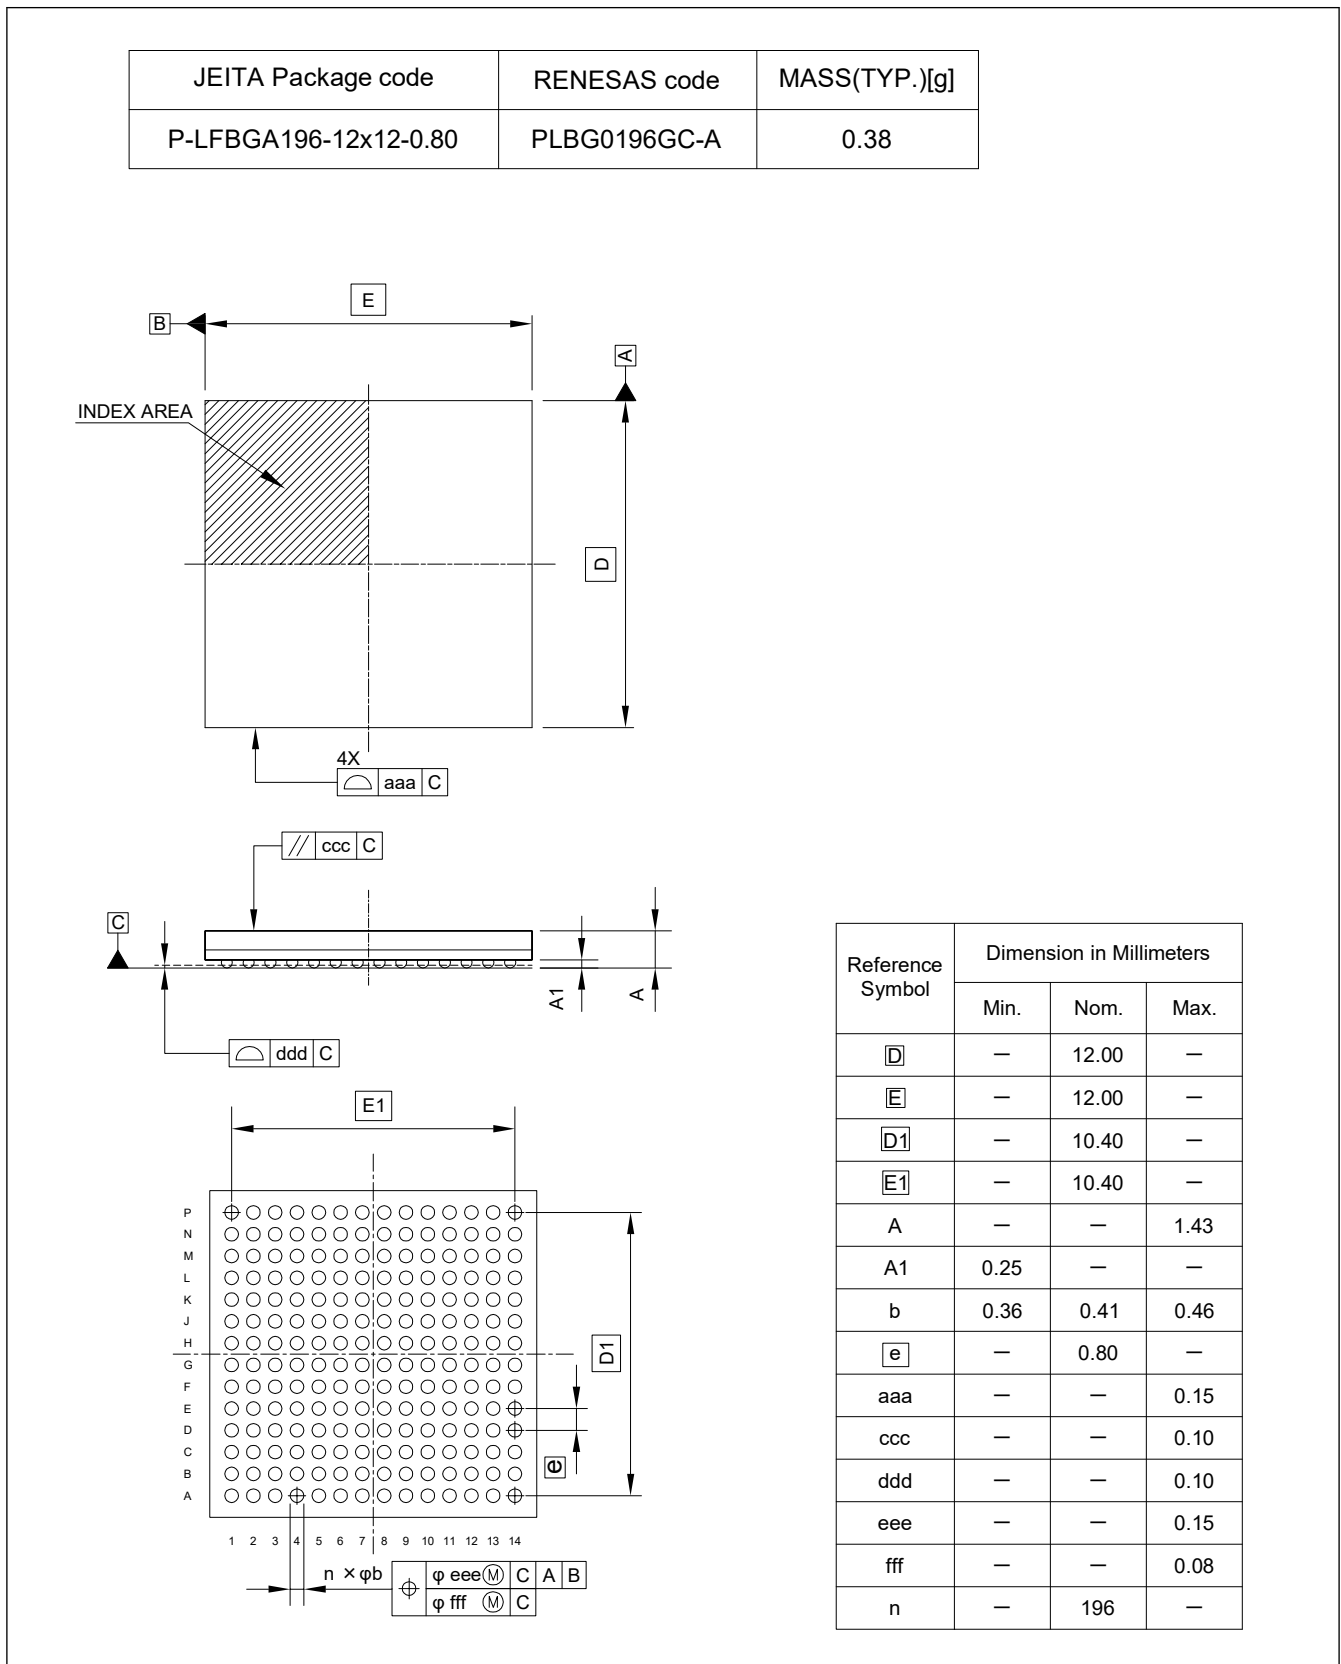

Figure 1.1 196-pin FBGA
- Corrected Figure 1.1 196-pin FBGA.